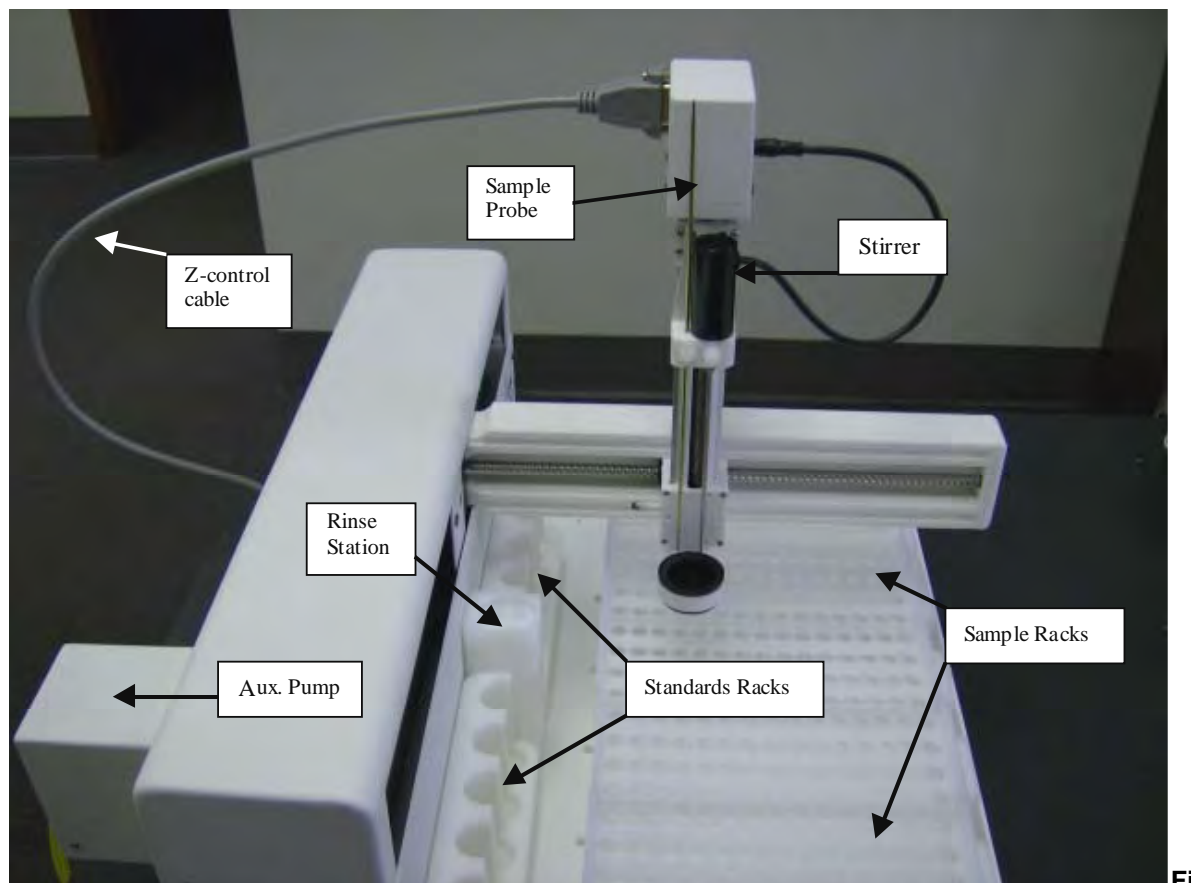

Figure 4-1. ASX-1400
2. Remove Auxiliary Pump if equipped by lifting vertically off pegs and unplugging from sampler. See Figure 4-1.
3. Remove sample probe, stirrer probe, and Z-axis control cable. See Figure 4-1.